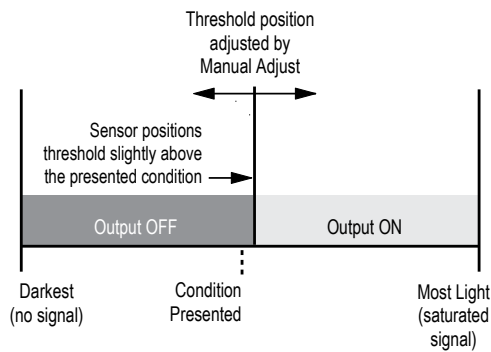

Figure 11. Single-Point Dark SET (Light Operate shown)
- Sets a threshold slightly above the taught condition (see Figure 11. Single-Point Dark SET \(Light Operate shown\) on page 10)